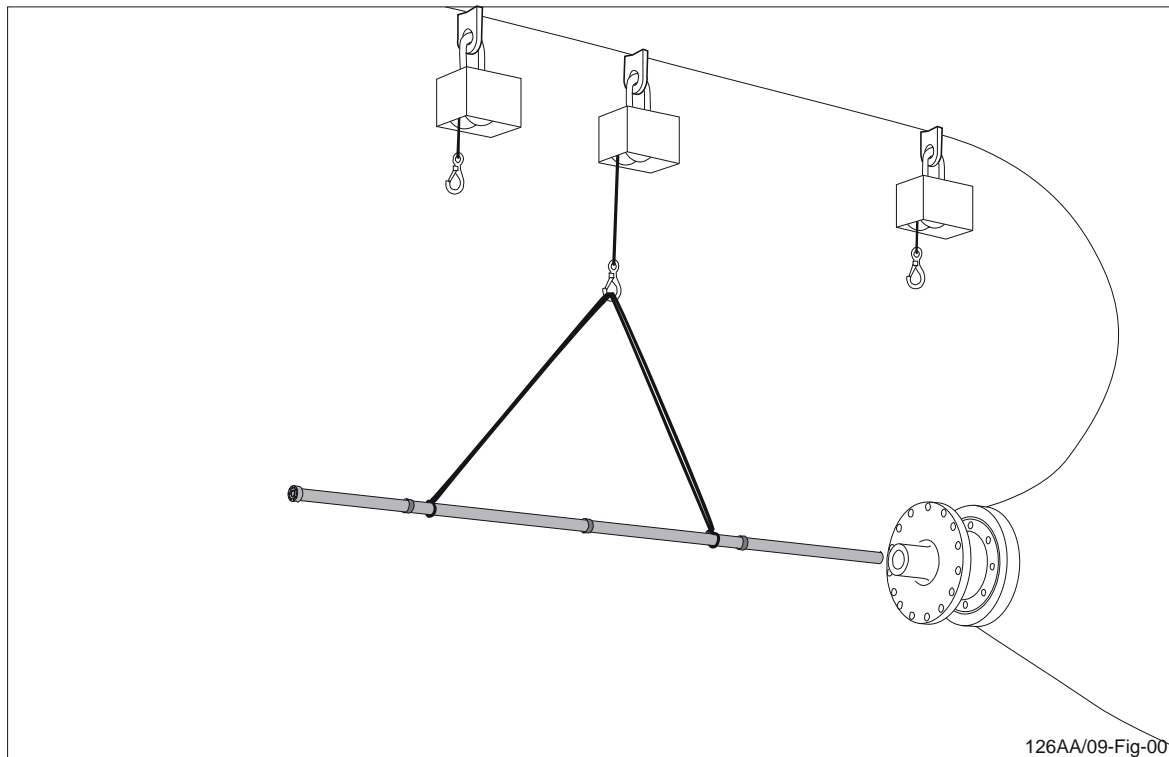

Figure 1 Lifting of the twin tube.
- Lift the twin tube assembly in front of the propeller shaft as shown in figure 1. Make sure to support the twin tube in several places during the installation.